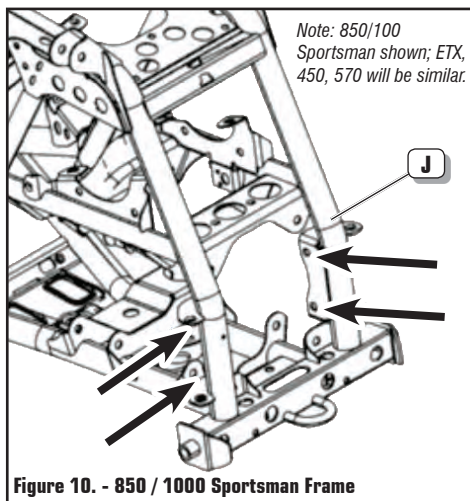

Figure 10. - 850 / 1000 Sportsman Frame
- Place winch into frame location while routing winch positive and negative wires to the location under the front rack and install (4) bolts, lock washers and washers loosely as shown in Figures 10 & 11.
- Tighten down the (4) bolts to secure the winch assembly to the frame.
- Locate the WHITE plug of the OEM pre-wired 2-pin connector, located near the winch assembly on the driver's side (approximate location is shown in Figure 10 [J]). There will be a GREEN and BLACK wire going into the WHITE plug.